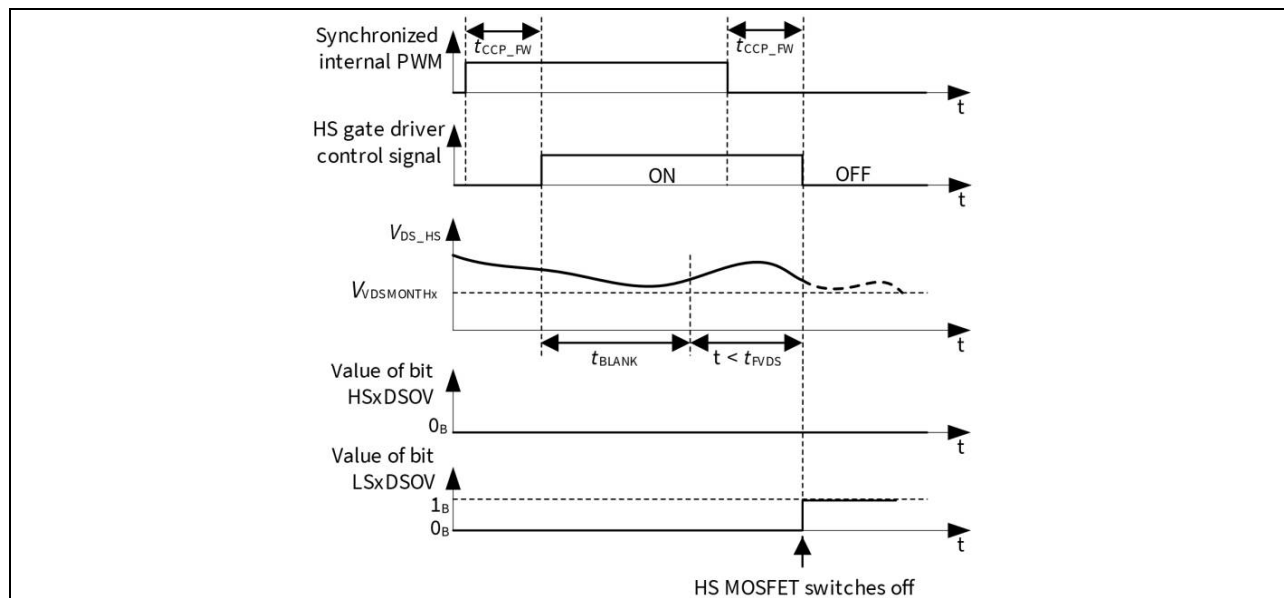

Figure 2 Falling edge of the internal HS control signal before the expiration of t_{FVDS}
- while $V_{\text{DS_HS}} > V_{\text{VDSMONTHX}}$ for $t < t_{\text{FVDS}}$ (Figure 2)